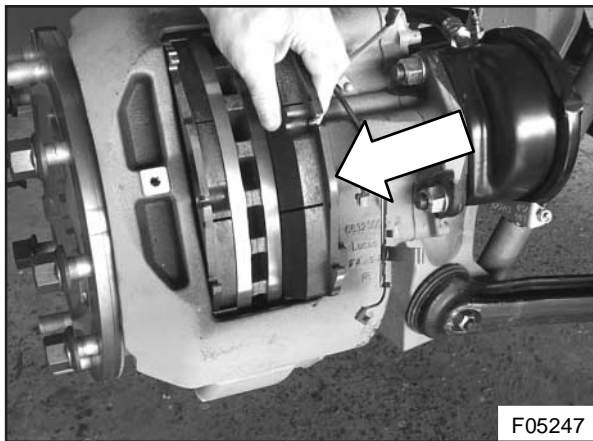

Figure 24 : Installing the inside pad
3. Fit the outer pad into the caliper and slide the caliper so that the outer pad makes full contact with the brake disc. Fit the inner pad into the caliper (see Figure 24).